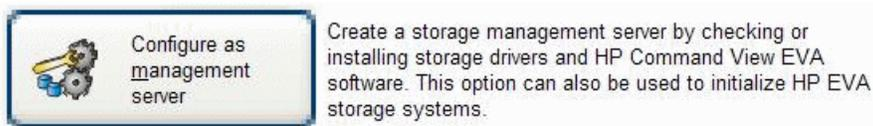

Figure 20 Configure as management server option
3. Click **Configure as Management Server** on the display (Figure 20).